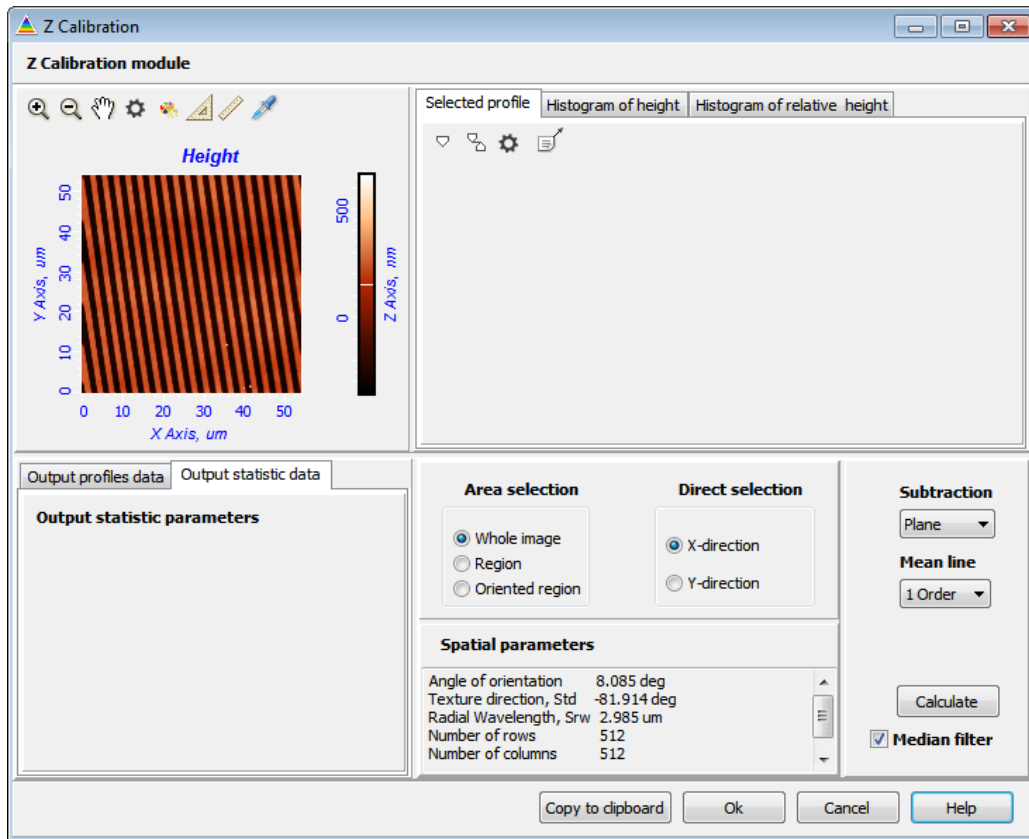

Fig. 1-22. Z Calibration window
5. Select an area to process by selecting a proper choice with the **Area selection** switch. If the grating is misoriented with respect to the XY basis (as in example shown in Fig. 1-22), the **Oriented Region** item should be selected. In this case, a square contour with sides oriented along the periodicity direction of the grating will appear.